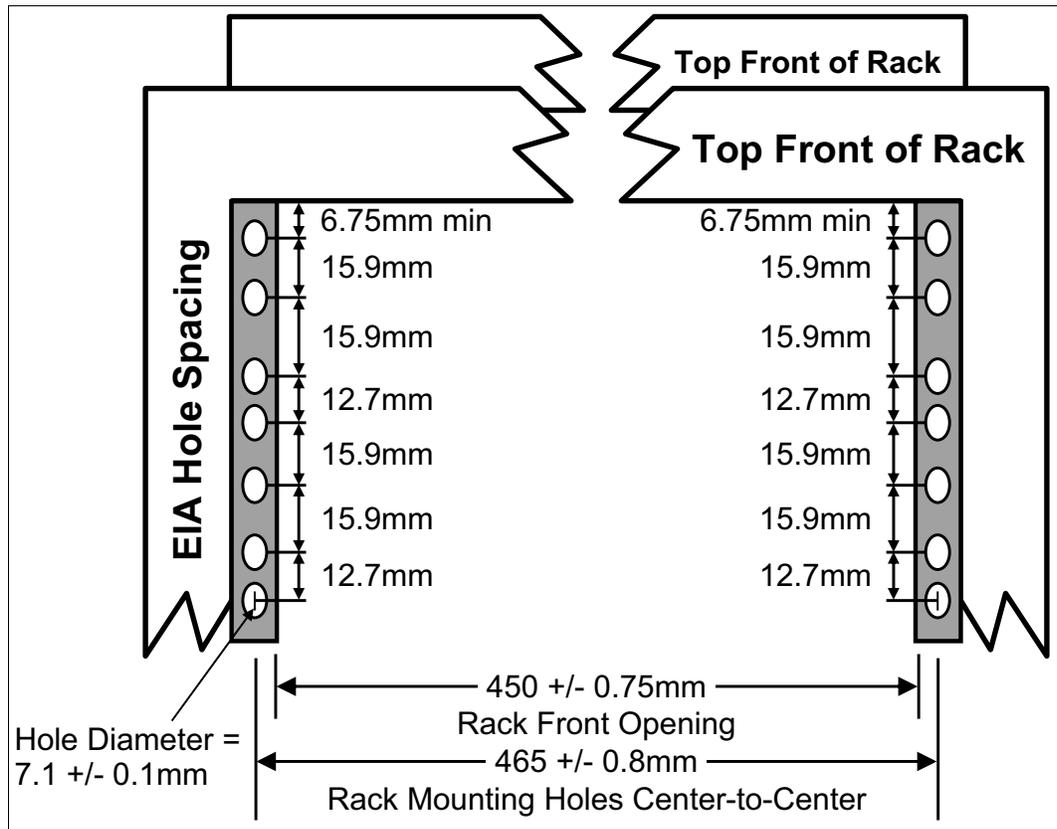

Figure 1-10 Top view of rack specification dimensions (not specific to IBM)
- ▶ The front rack opening must be 451 mm wide ± 0.75 mm (17.75 in. ± 0.03 in.), and the rail-mounting holes must be 465 mm ± 0.8 mm (18.3 in. ± 0.03 in.) apart on-center (horizontal width between the vertical columns of holes on the two front-mounting flanges and on the two rear-mounting flanges). Figure 1-10 is a top view showing the specification dimensions.